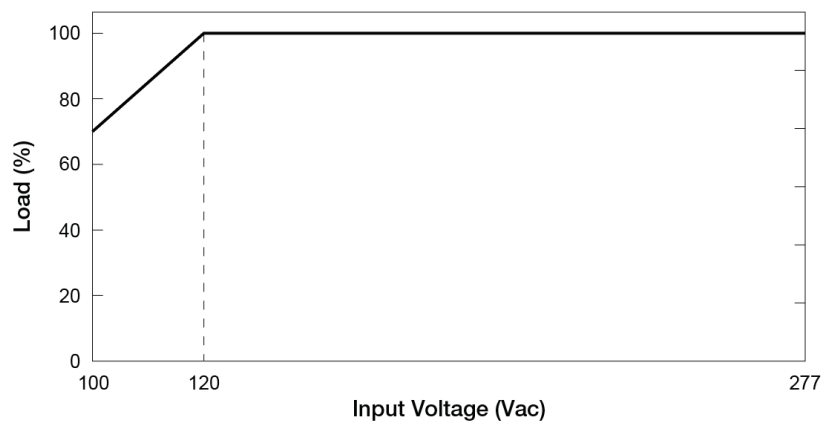

**Fig. 1 De-rating for All Mounting Orientation**
1. Power supply components may degrade, or be damaged, when the power supply is continuously used outside the shaded region, refer to the graph shown in Fig. 1.
- If the device is continuously operating outside the shaded region shown in Fig. 1. The device may be damaged or degraded.